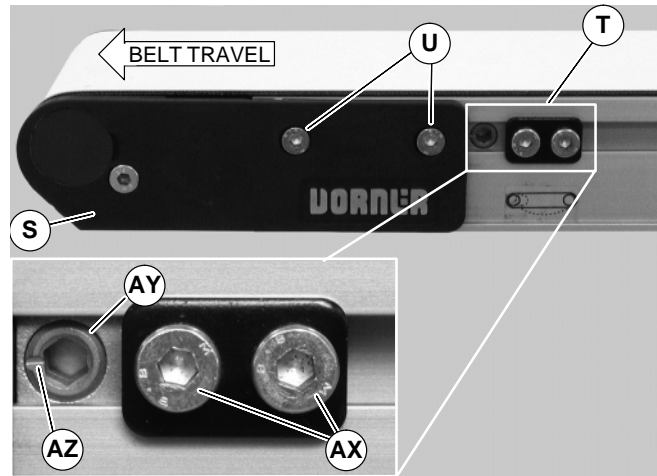

Figure 29
Non V-guided belt conveyors are equipped with belt tracking cam assemblies (T of Figure 29) for belt tracking adjustment.
1. Ensure head plate fastening screws (U of Figure 29) on both sides of conveyor are tightened.
2. On both sides of conveyor, loosen two (2) cam fastening screws (AX). Adjust cams (AY) until indicator slots (AZ) are horizontal and facing end of conveyor. Then slide cam assemblies against head plates (S) and re-tighten cam fastening screws (AX) to 7 Nm.
3. On the side toward which the belt is tracking, loosen head plate fastening screws (U).
4. With the conveyor running, use a 5 mm hex-key wrench to rotate the tracking cam (AY) in small increments until the belt tracks in the center of the conveyor. Then while holding the cam in position, re-tighten the head plate fastening screws (U) with a 4 mm hex-key wrench to 7 Nm.